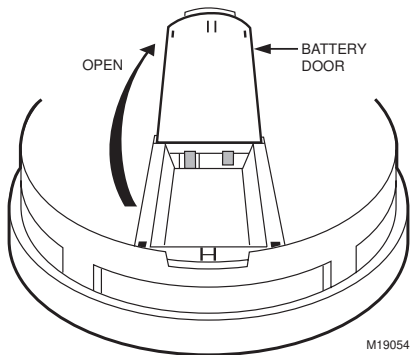

Fig. 5. Installing battery.
5. Remove and reinstall the battery in the correct (+/-) orientation as shown on the inside of the battery door. (After installing the battery, close the battery door securely.) See Fig. 5.
3. Verify that you have a 9-volt alkaline battery and install it; see Fig. 5 (Duracell® MN1604 is recommended).